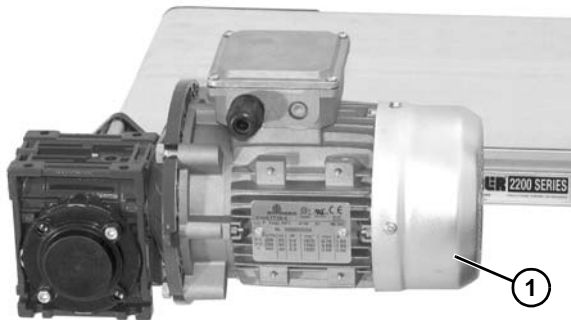
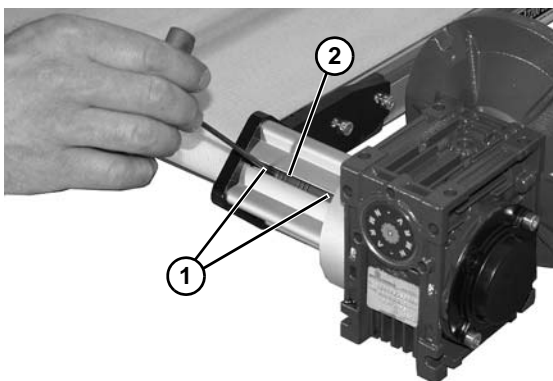

Figure 13
Figure 14
5. Remove fan guard (**Figure 13, item 1**) and rotate fan to align set screws (**Figure 14, item 1**) with access slot (**Figure 14, item 2**). Tighten to 32 in-lb (3.7 N-m). Repeat for second set screw.